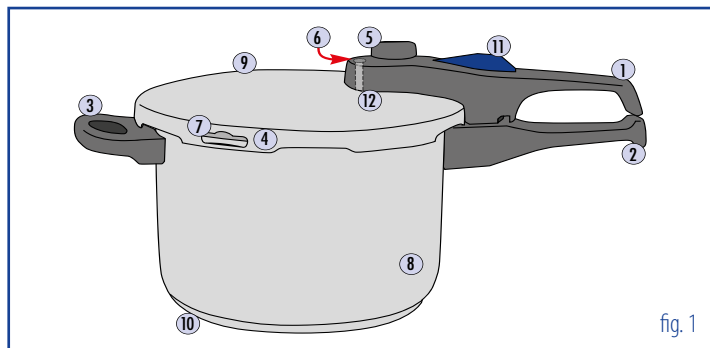
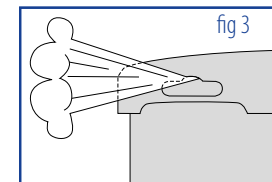

fig. 1
fig 3
If the pressure increases too much, the rubber seal is pushed out through an opening in the edge of the lid (fig. 1: ⑦) and the pressure can escape (see fig. 3).